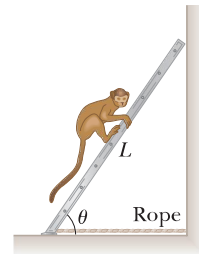

Figure P12.24
24. A 10.0-kg monkey climbs a uniform ladder with weight 1.20×10^2 N and length $L = 3.00$ m as shown in Figure P12.24. The ladder rests against the wall